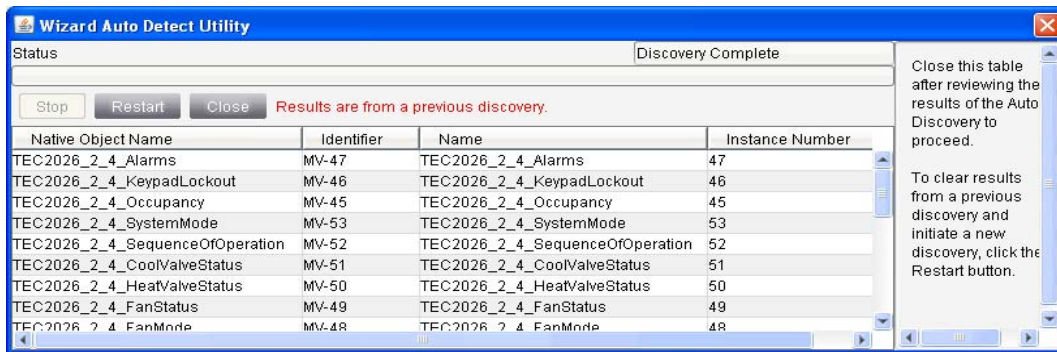

Figure 50: Wizard Auto Detect Utility
10. Select Assisted and click **Invoke Auto Discovery**. The **Wizard Auto Detect Utility** screen (Figure 50) appears.